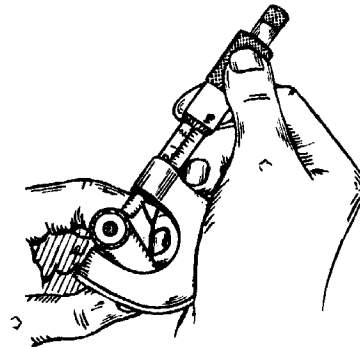

FIG. 9 MEASURING STOCK
1. The frame of the micrometer is held in the palm of the right hand by the little finger (or the third finger, whichever is more convenient), allowing the thumb and forefinger to be free to revolve the thimble for the adjustment (Fig. 9).
2. Place the work between the anvil and the spindle. Turn the thimble until its movement has brought the spindle and the anvil in contact. (Fig. 9).